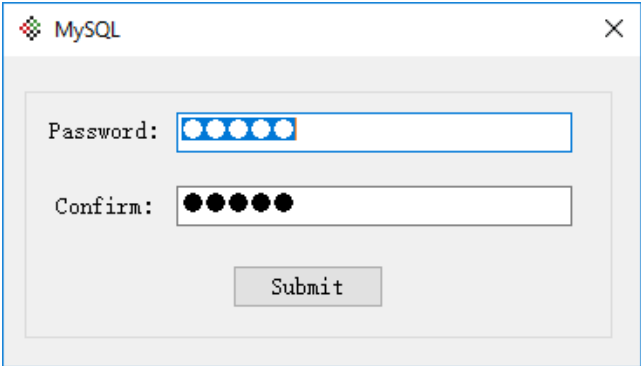

Figure 16
1. Go to Tools > MySQL Configure. (Figure 16)